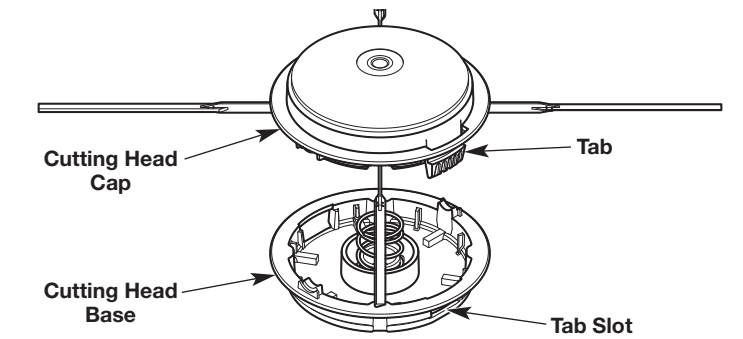

Fig. 25
1. Disconnect the cutting head cap from the cutting head base: Firmly press a tab on the cutting head cap (Fig. 25). Use your thumb. If necessary, use a flat-head screwdriver:
- c. While holding the screwdriver in place, gently twist the screwdriver to unlock the tab from the tab slot (Fig. 25).
7. Align the tabs on the cutting head cap with the tab slots on the cutting head base (Fig. 25). Push the cutting head cap onto the cutting head base until both tabs snap into place.